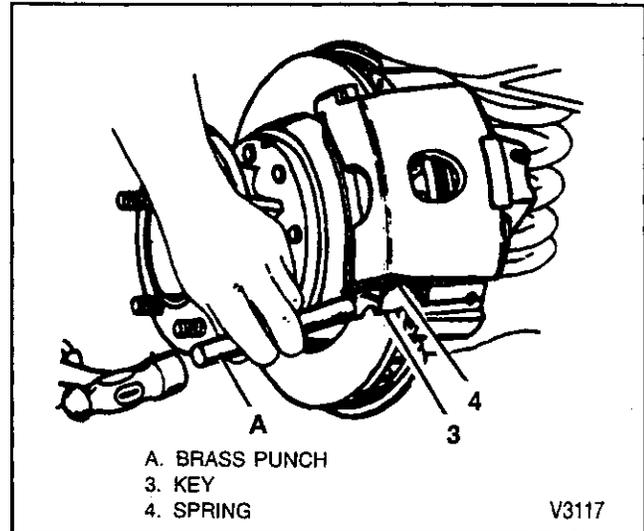

Figure 8—Installing the Caliper Support Key
3. Spring (4) and support key (3) (figure 8).
4. Bolt (2).
- Bolt (2) to 20 N·m (15 lbs. ft.).